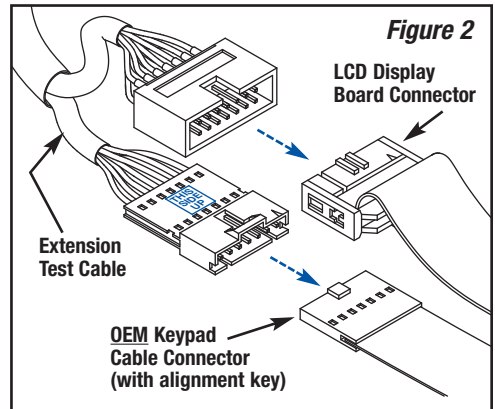

Figure 2
3. If the OEM keypad is installed, connect the Extension Test Cable mating connector to the keypad cable connector (**see Figure 2**).